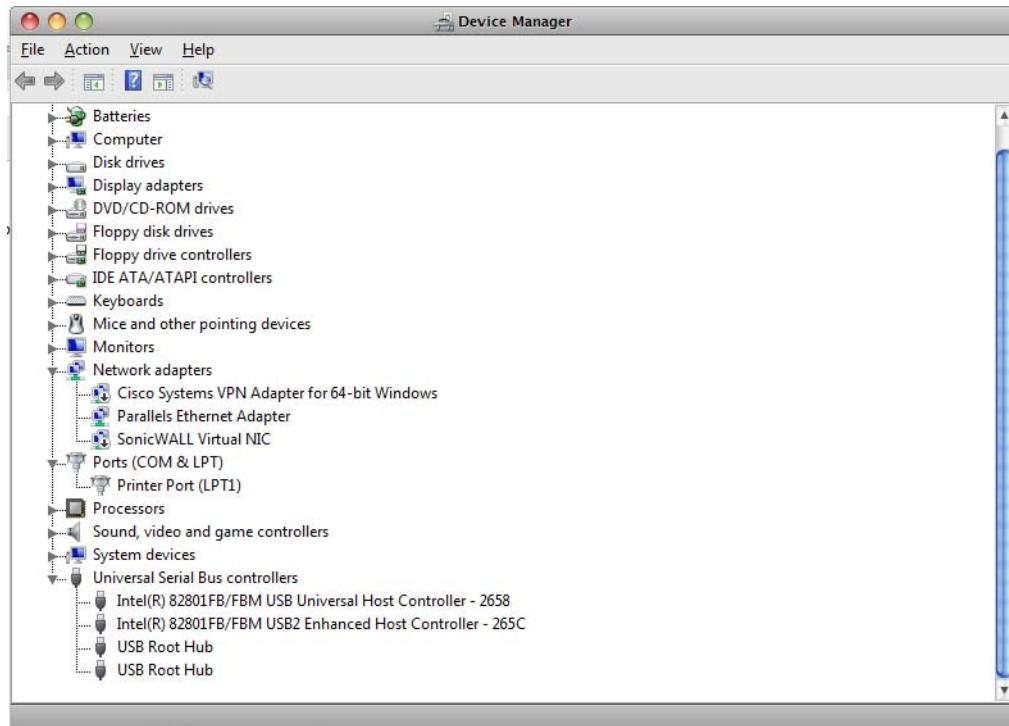
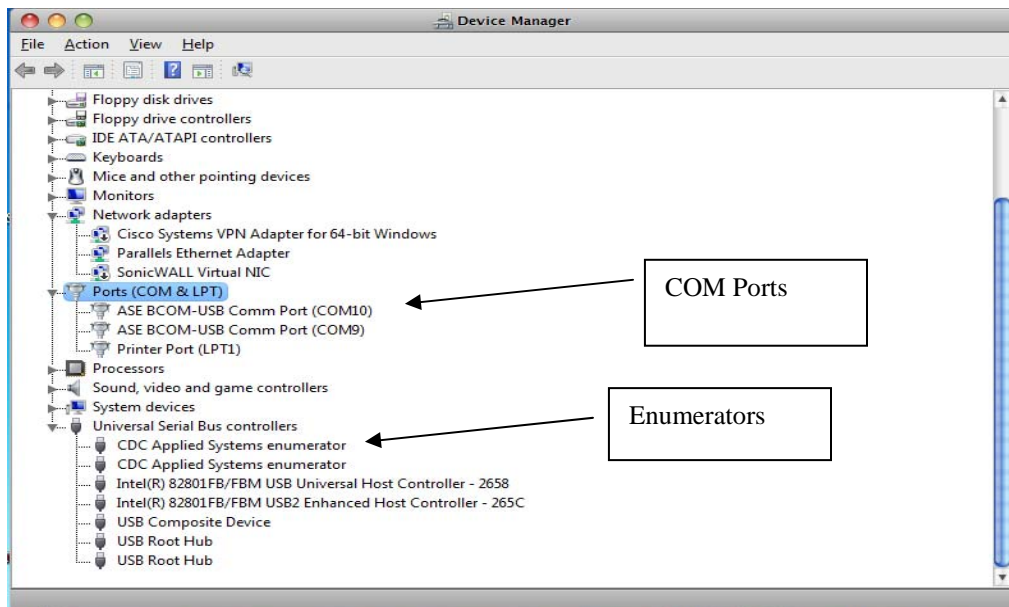

Figure 16 Pre-Driver Installation
Figure 17 Post-Driver Installation
3. The screen shot below, Figure 16, is similar to one you should see on your system prior to installation of the BCOM-USB drivers. The Figure 17 screen shot illustrates the Device Manager screen following driver installation.